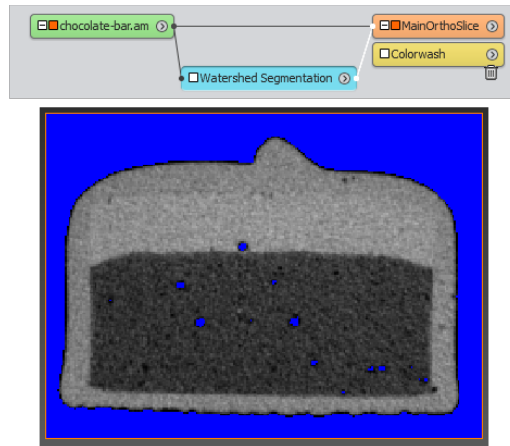

Figure 6.77: The *Watershed Segmentation* wizard at step 4.
- You can use 0-435 as range (see Figure 6.77).